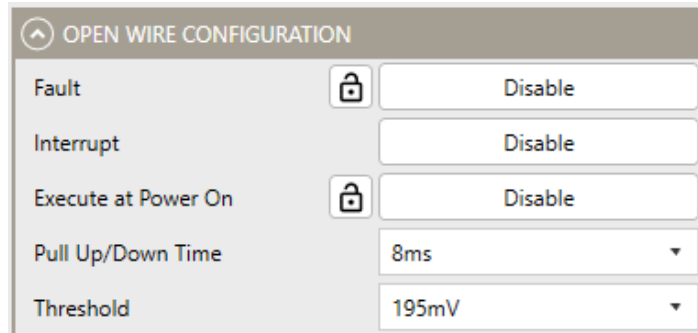

Figure 17: Open-Wire Configuration
13. Configure the open-wire parameters (see Figure 17).